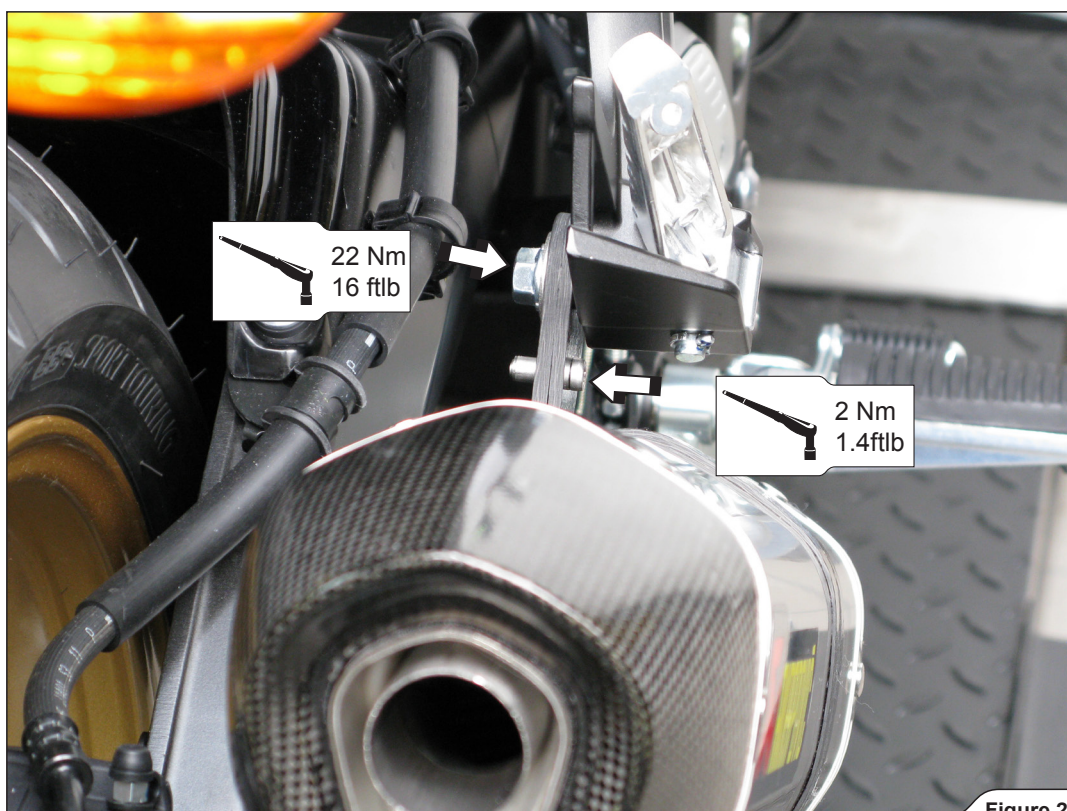

Figure 22
14. Tighten the carbon-fiber clamp's bolts to a specified torques, using Akrapovič bolts and washer. (Figure 22).